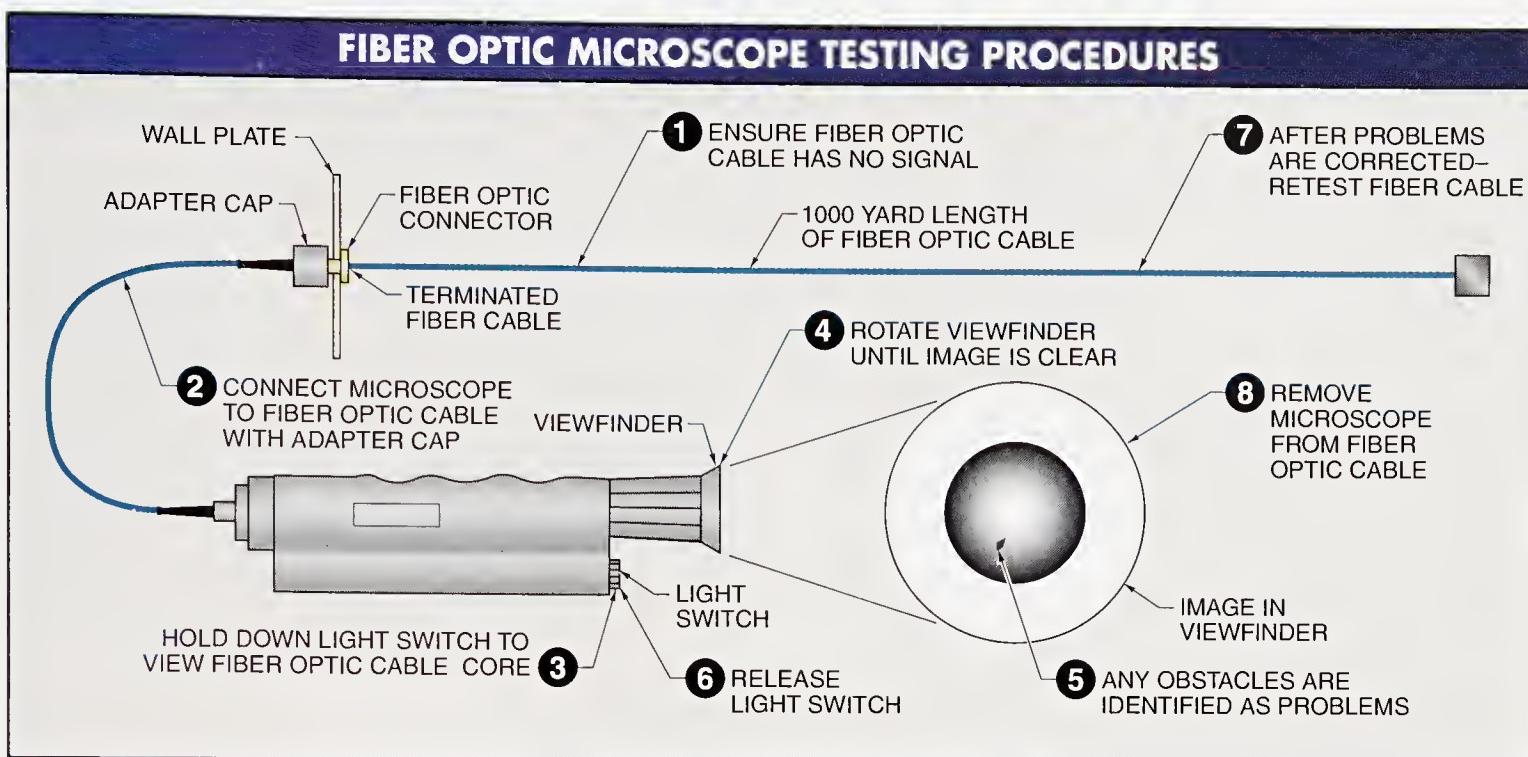

Figure 3-25. A fiber optic microscope is a test instrument that allows visual viewing of the inside of a fiber cable.
To properly inspect glass or plastic fibers, a fiber optic microscope is used. A fiber optic microscope is a test instrument that allows visual viewing of the inside of a fiber cable. Fiber optic microscopes use laser light to allow inspection (viewing) of cables up to several miles in length. In the two basic types of fiber optic microscopes, (1) the cable is viewed directly by looking into the microscope, or (2) a screen is used to indirectly view the cable image. The direct-view fiber optic microscope includes a filter to prevent eye damage. See **Figure 3-25**.